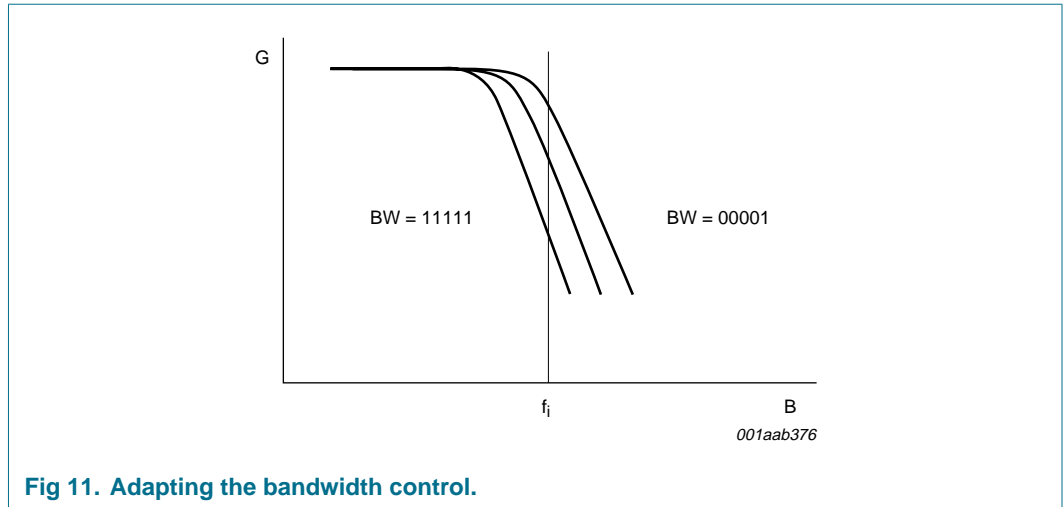

Fig 11. Adapting the bandwidth control.
A low value for the bits BW[4:0] means that the bandwidth is maximized but still adjusted according to the incoming bit rate. Increasing the value means that the bandwidth will be smaller. This allows for optimization of the input stage with respect to the used optical receiver, i.e. (A)PD + TIA; see Figure 11.